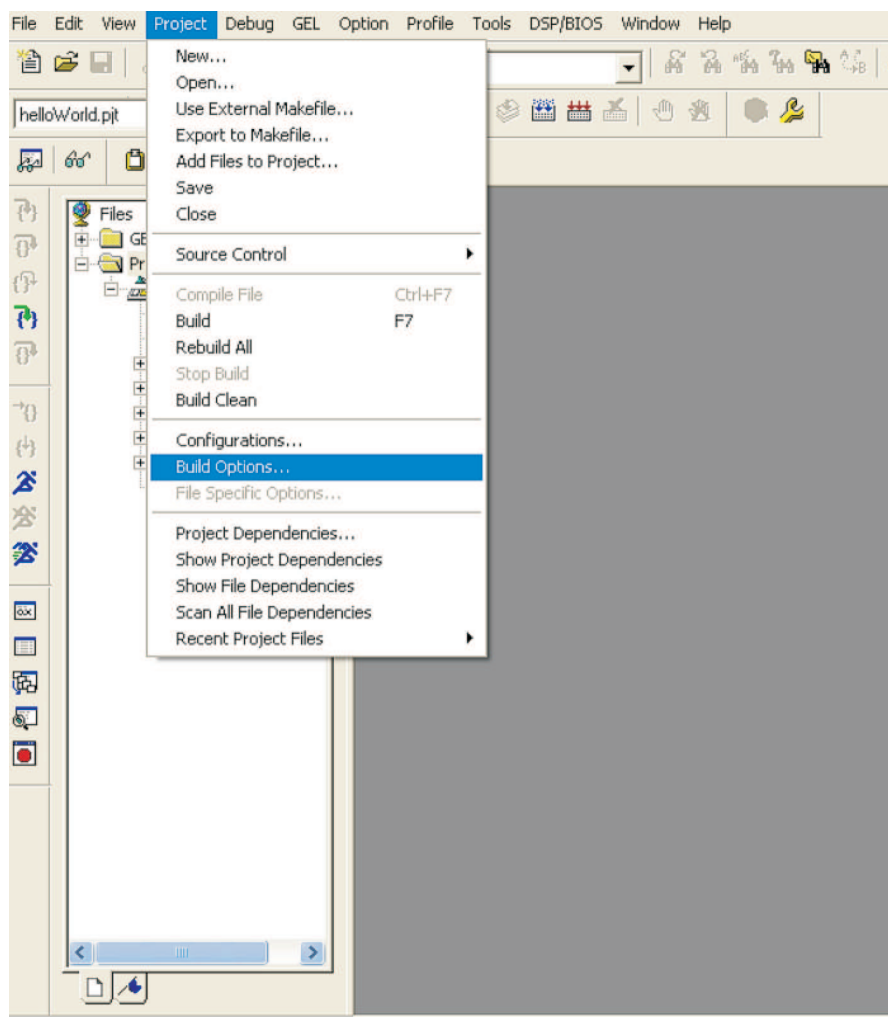

Figure 4. Configuring Build Options Through Code Composer Studio
- a. Open the application project in Code Composer Studio IDE. Go to Project → Build Options and click on it as shown in Figure 4: